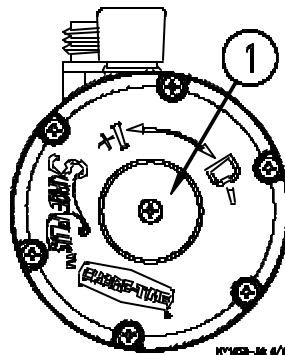

Figure 17. Water Level Regulator
- The water level adjustment knob is on the back of the Regulator near the Chore-Time logo. To increase the water level turn the knob in the direction of the "I" or "+". To decrease the water level turn the knob in the direction of the "D" or "-". See **Figure 17**.